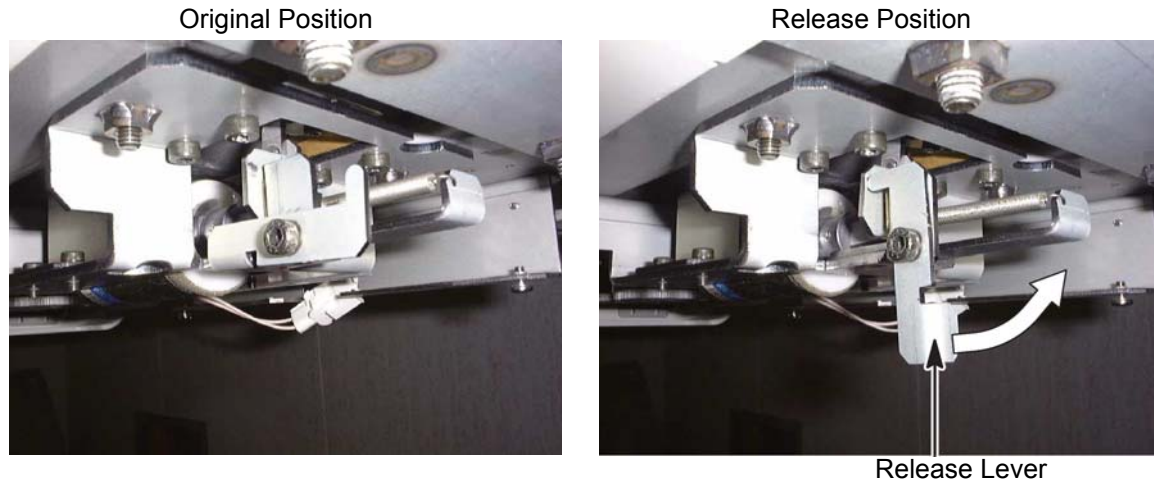

Figure 1-43 Release the Cradle
- 2.) Release a latch by pushing a bracket to move the cradle by hands. See Figure 1-43.